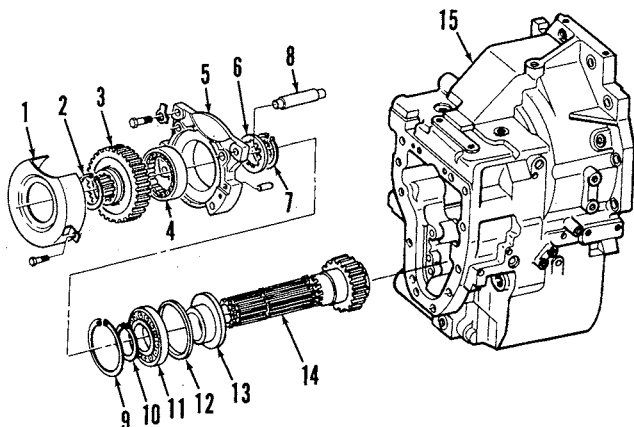
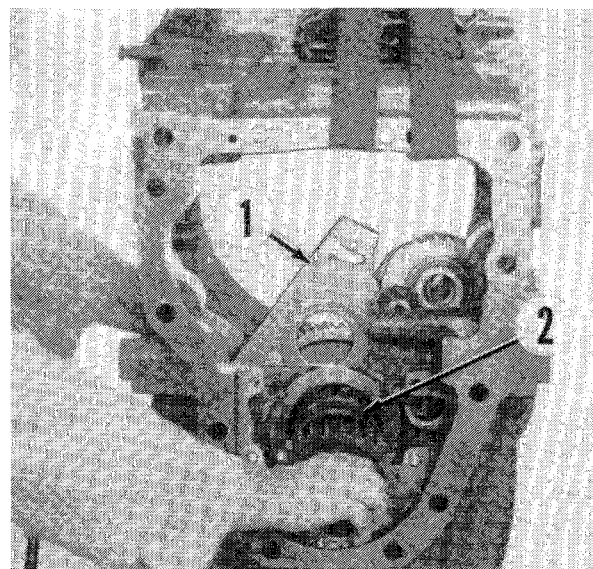

Fig. 138—Exploded view of mechanical front-wheel drive intermediate drive shaft and gear used on models equipped with Quad-Range transmission.
Fig. 138A—Clutch housing must be removed from tractor to remove sheet metal shield (1) and clutch shaft drive gear.
119. R&R AND OVERHAUL. The MFWD intermediate shaft and drive gear are located in the clutch housing. The shaft (14—Fig. 138) can be removed after separating tractor between transmission and clutch housing as outlined in paragraph 109. To remove clutch shaft drive gear and sheet metal housing (1—Fig. 138A), the clutch housing must also be separated from the engine, and Quad-Range planetary and MFWD clutch assembly must be removed.
To disassemble, remove gear shield (1—Fig. 138), snap ring (2) and gear (3) from rear of shaft. Remove bearing retainer (5) mounting cap screws, then install two M10 x 50 cap screws into threaded holes of retainer and tighten evenly to remove retainer from clutch housing. Remove pto brake dowel pin (8). Remove thrust washer (6), snap ring (7) and bearing retaining ring (9). Reinstall gear (3) and rear snap ring
(7) onto shaft, then use the gear like a slide hammer to pull shaft and bearing from clutch housing. Remove front bearing (11) and bushing (13) from shaft if necessary. Lift sheet metal shield (1—Fig. 138A) with clutch shaft drive gear from clutch housing.